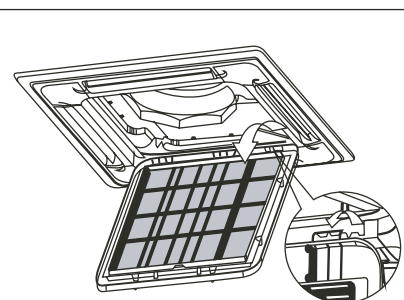

Fig. 4
- 2) Pull air inlet grille downwards, and open it by an angle of about 45°, as it is shown in Fig. 4.